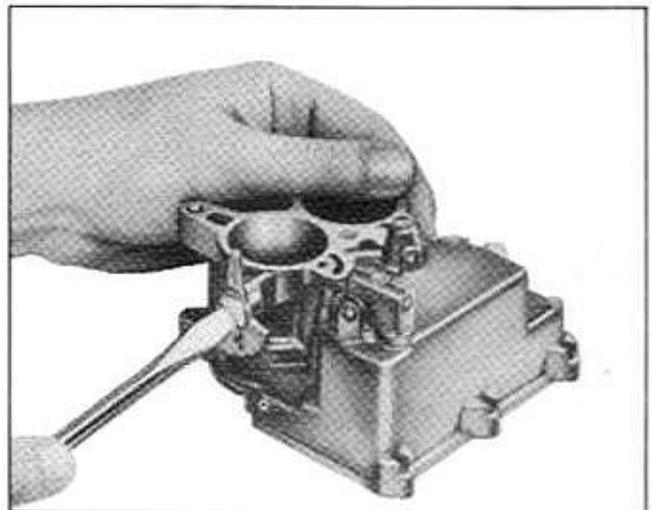

Fig. 6B-67 Removing or Replacing Fast Idle Cam
4. Using a pair of long nose pliers, remove the pump discharge spring retainer (Fig. 6B-65). Then the spring and check ball may also be removed.